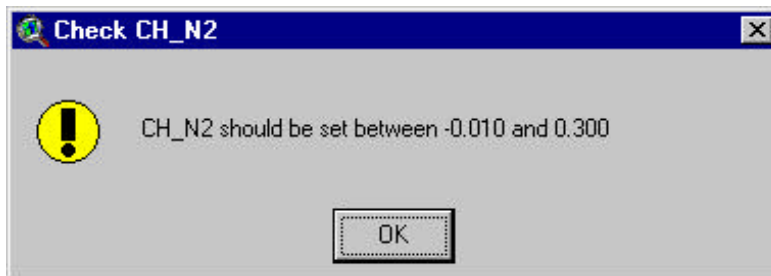

Figure 12.29
2. Edit data: Activate a parameter text box by clicking on it. Type the desired value. You can move to the next parameter text box by pressing the **TAB** key. If the value of the parameter is out of range, a message box like the one in Figure 12.29 pops up.